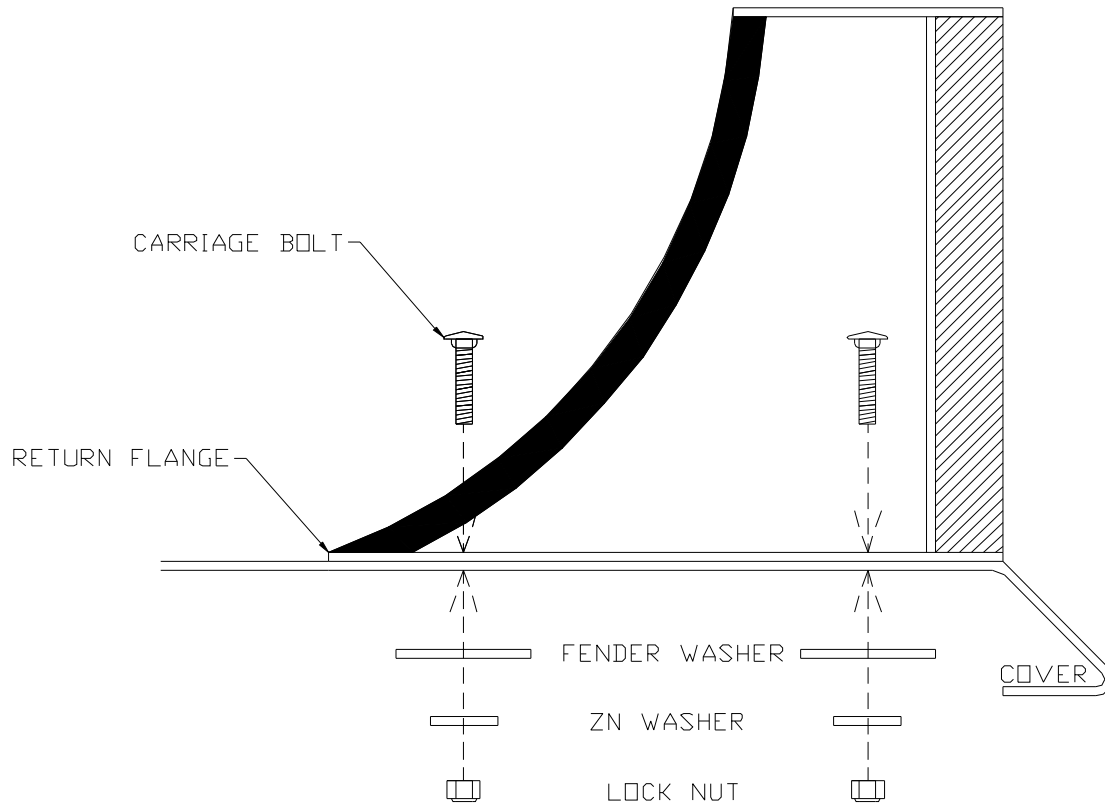

Figure 1
2. Center the cab guard on the edge of the cab panel nearest the window of the cab, **Figure 1**.
6. Place the cab guard back onto the cab panel and place a 5/16"x1" carriage bolt into each of the holes. (**Figure 1**)